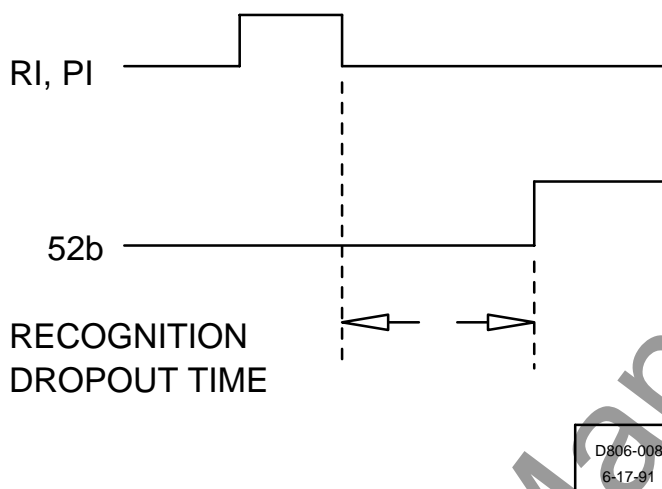

Figure 3-3. Recognition Dropout Timing
- **Recognition Dropout** - This function replaces the standard recognition dropout time of 17.5 milliseconds. The relay initiates a reclosing sequence if a 52b occurs within 200 milliseconds of an RI or PI. Figure 3-3 illustrates the recognition dropout timing relationship.